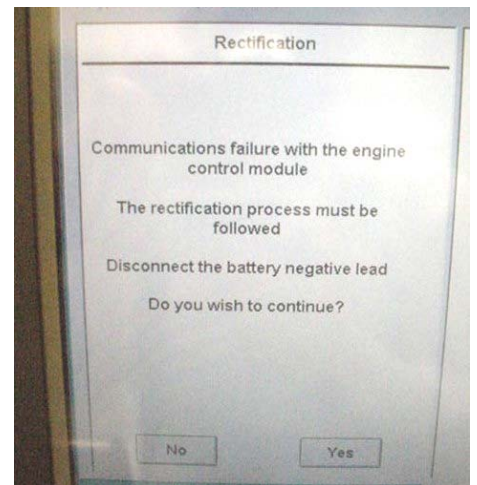

Fig. 2
2. Disconnect the negative battery lead and press 'YES' on the WDS screen as shown in figure 2.